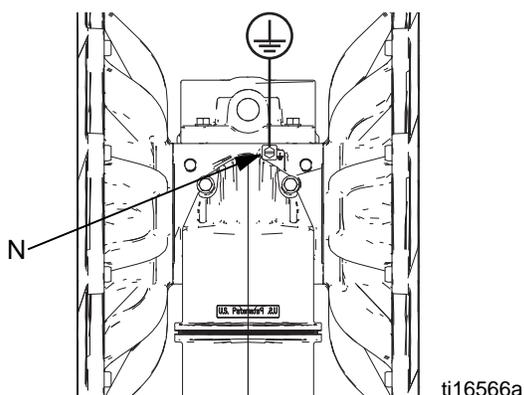

FIG. 3. Grounding screw and wire
- N Ground screw (Aluminum and stainless steel only, see FIG. 3, page 11)
Pump: See FIG. 3. Loosen the ground screw (N). Insert one end of a 12 ga. minimum ground wire behind the ground screw and tighten the screw securely. Connect the clamp end of the ground wire to a true earth ground. A ground wire and clamp, Part 819.0157, is available.